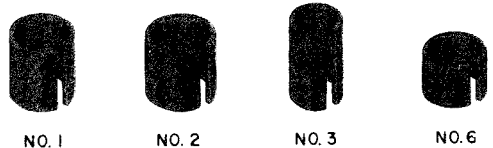

Fig. 10 - Binding Post Insulators
4.05 Binding post insulators are open-ended fibre insulators for use on binding posts to prevent accidental contacts. These insulators are designated No. 1, 2, 3, and 6, and are shown in Fig. 10. Binding post insulators have a red enamel finish, for use on SSM and SSP circuits and natural for other uses.
- No. 1 insulators, Fig. 10, are for use on binding posts having  $\frac{3}{8}$ -inch hexagonal nuts, and on 7T fuses.
- No. 2 insulators, Fig. 10, are for use on binding posts having 7/16-inch hexagonal nuts, and on 7A fuses.
- No. 3 insulators, Fig. 10, fit the screw binding posts of BD, BE and BF cable terminals.
- No. 6 insulators, Fig. 10, are for use on terminations of the alarm and contactor circuits in T pressure contactor-terminals and 3-pair gas-tight terminals.